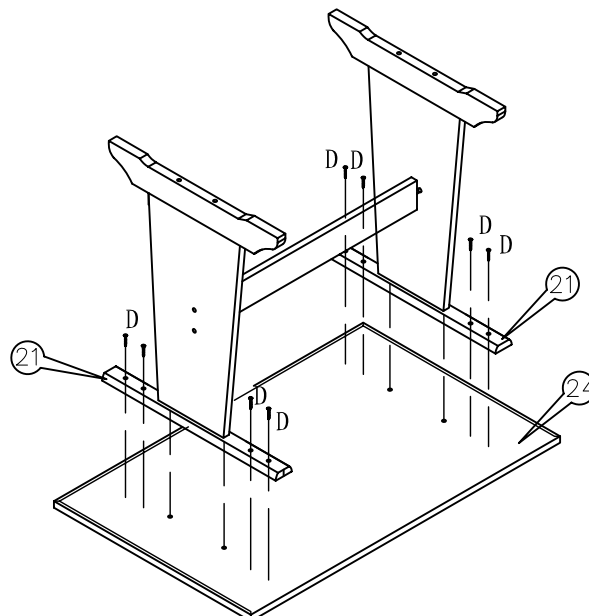

FIGURE 4
- 4.1 ATTACH ASSEMBLED LEGS TO TABLE TOP #24 THROUGH FITTING WOOD DOWELS PRESENT IN UPPER SIDE OF TOP SUPPORTS #21 INTO HOLES LOCATED UNDERNEATH OF TABLE TOP #24 AS SHOWN IN FIGURE 4. IT SERVES AS GUIDE ENABLING YOU TO CONNECT THE LEGS IN CORRECT POSITION.
- 4.2 USING PRE-DRILLED HOLES AS GUIDE, SECURE CONNECTION WITH (08) SCREWS (D) DRIVEN WITH PHILLIPS HEAD SCREW DRIVER (NOT ATTACHED) AS SHOWN IN FIGURE 4.